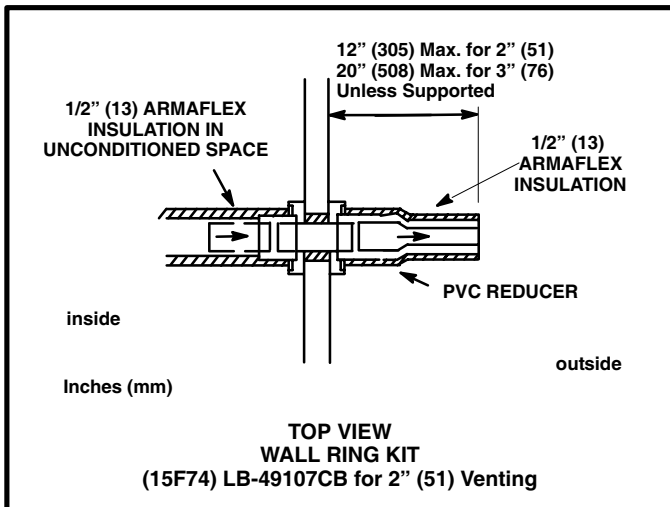

FIGURE 21
2. On field supplied terminations for side wall exits, exhaust piping should extend a maximum of 12 inches (305mm) beyond the outside wall for 2" (51mm) pipe, or a maximum of 20 inches (508mm) for 3" (76mm) pipe, unless support is provided in the horizontal section. See figure 21.